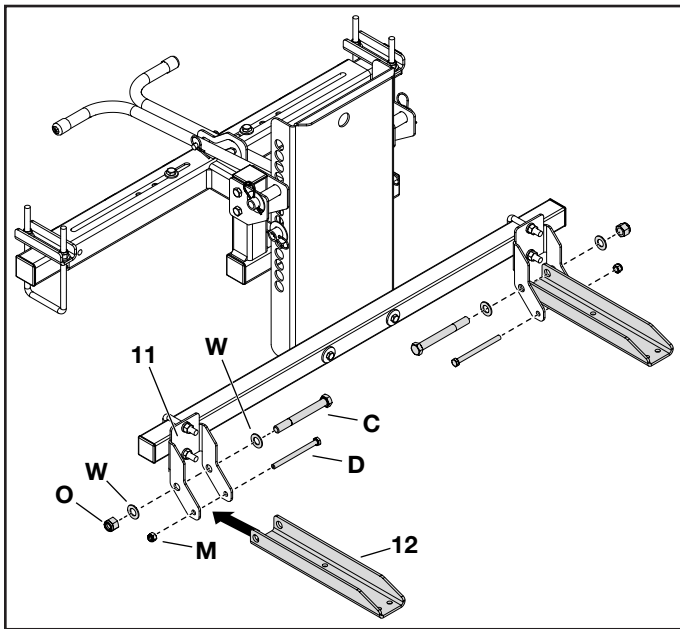

FIGURE 10
STEP 10: (SEE FIGURE 10)
- Attach the two lift brackets (12) to the two mounting brackets (11) with the two bolts (C) above the two bolts (D).
- Secure the two hex bolts (C) with the four washers (W) and two Nylock hex nuts (O).
- Secure the two hex bolts (D) with two Nylock hex nuts (M).